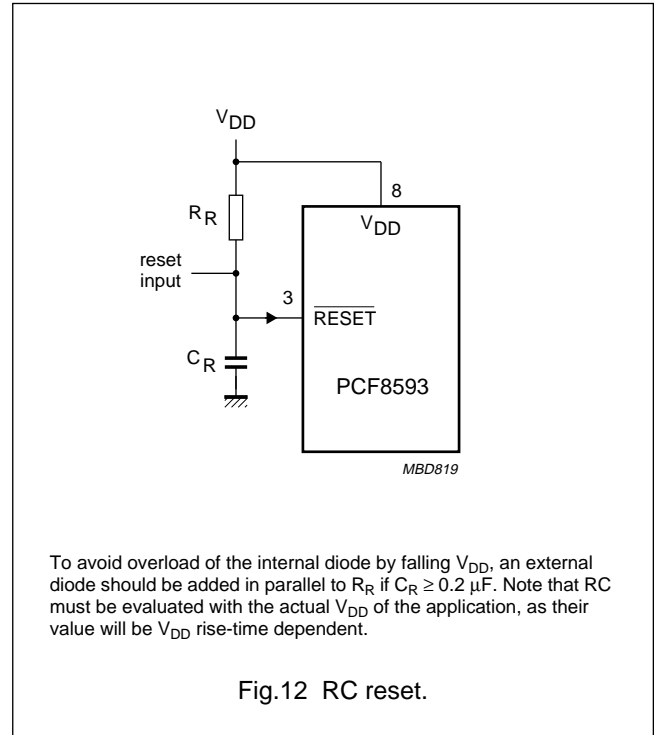

Fig.12 RC reset.
7.11 Initialization (see Fig.12)
An RC combination can also be utilized to provide a power-on $\overline{\text{RESET}}$ signal at pin 3. In this event, the values of the RC must fulfil the following relationship to guarantee power-on reset (see Fig.12).